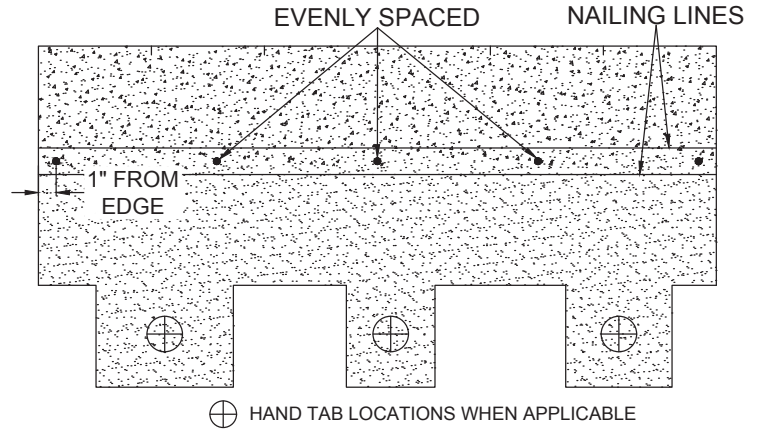

Figure 6 - 5-Nail Fastening Pattern and Hand-Tab Locations
Nailing Pattern: Use five (5) fasteners for each shingle, evenly spaced across the shingle, and placed within the **high nailing area** designated by the parallel **nailing lines**. Ensure the outside fasteners are approximately 1" (25 mm) from each edge. (See Figure 6)
To hand-seal a Windsor® designer shingle, apply a quarter-size dab of asphalt roof cement conforming to ASTM D4586 under each shingle tab, and press them firmly into the cement (see Figure 6).